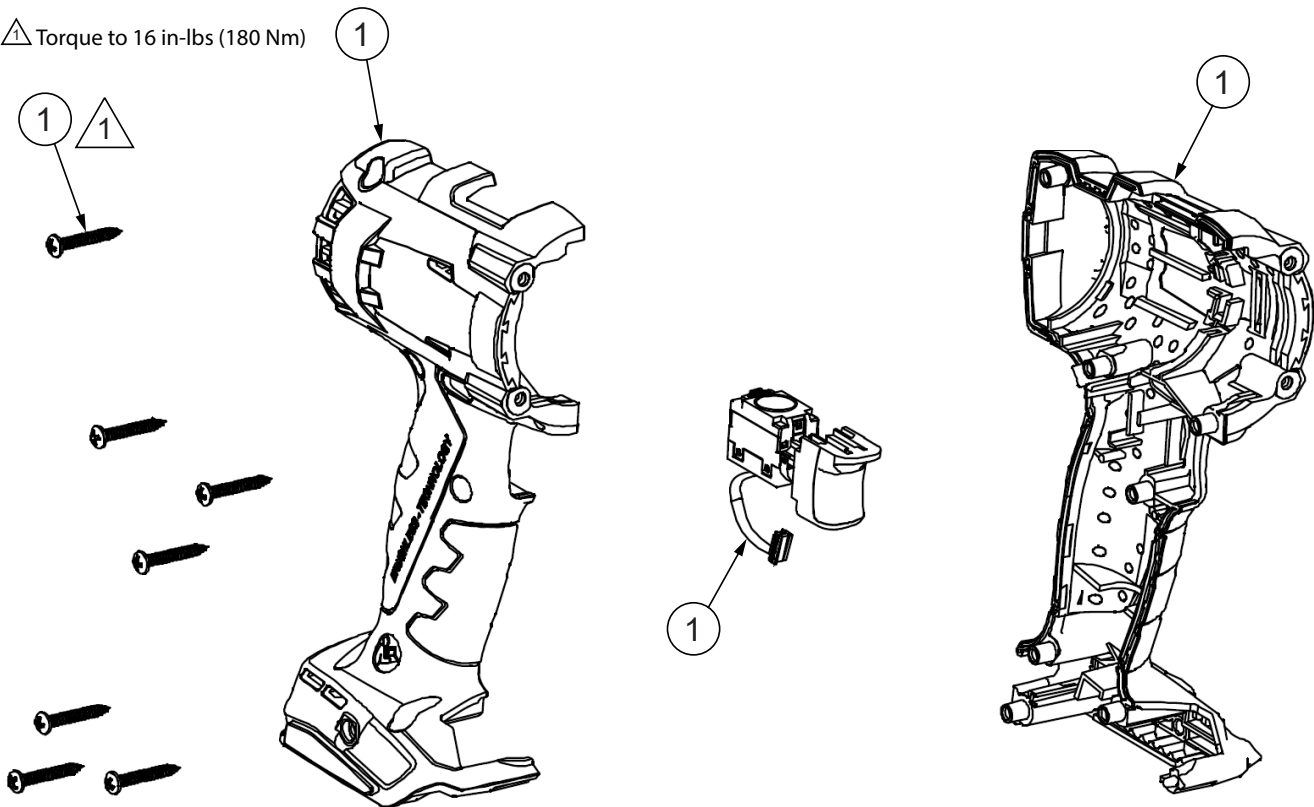

Figure 6: Handle Repair Kit
9.2.1 Table of Parts (Figure 6)